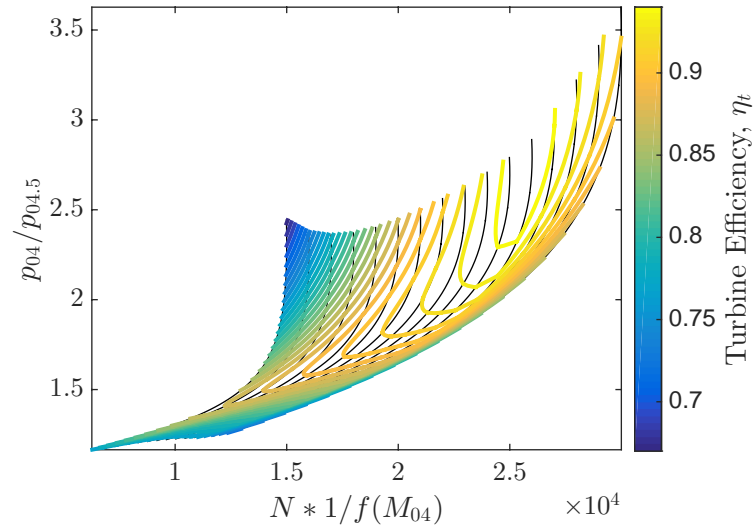

Figure 4: Consolidated turbine map.
c) [5 pts] The consolidated turbine map is shown in Figure 4.